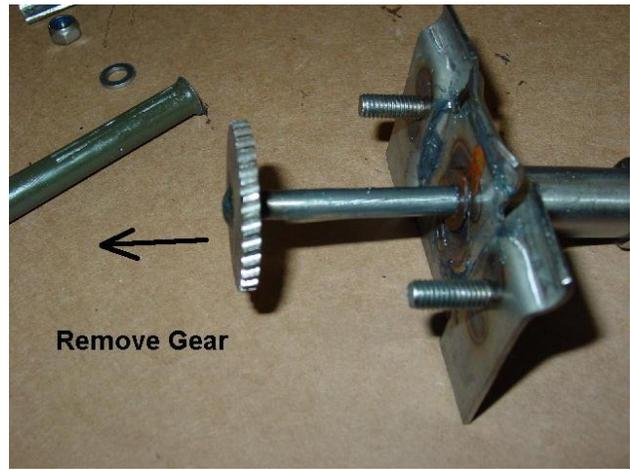

Fig. 18
13. Slide the old gear out of the transmission. *Fig. 18* It may be necessary to grind the knurling off the end of the shaft to aid in removal.